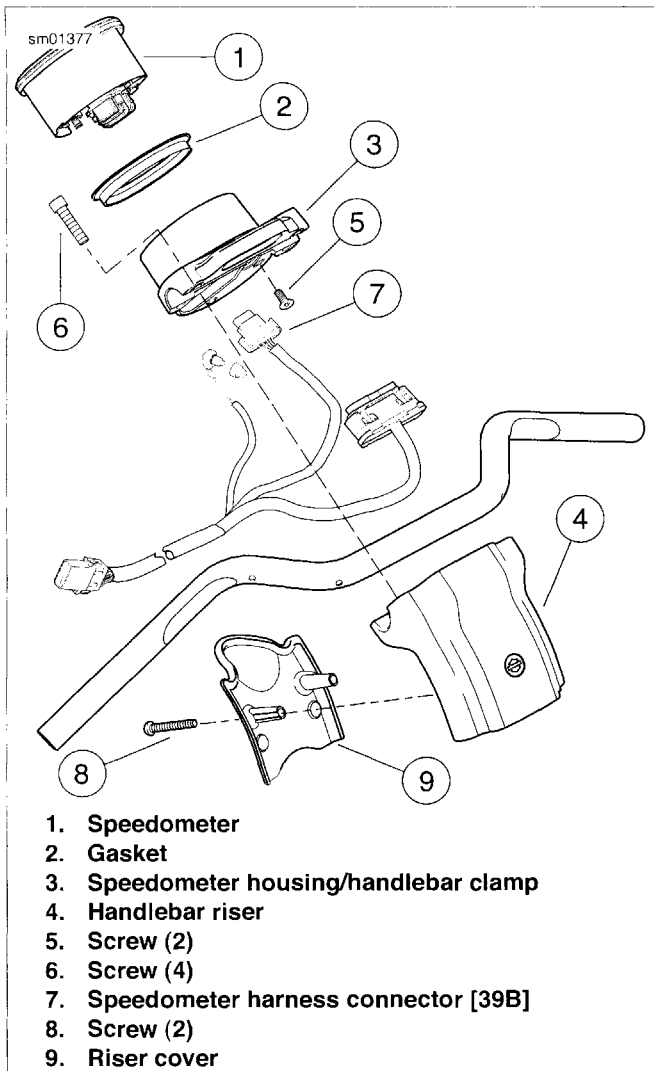

Figure 6-15. Speedometer Components (XL 883C/XL 1200C)
3. See Figure 6-15. Remove two screws (8) and riser cover (9) from back of handlebar riser (4). See 2.31 HANDLEBARS.
- See Figure 6-15. If removed, install gasket (2) in speedometer housing/handlebar clamp (3).